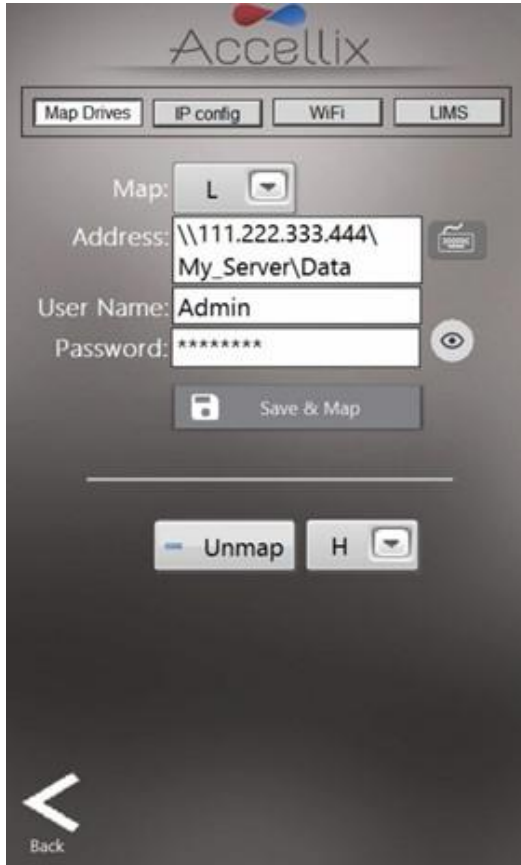

Figure 24: Network screen: Map Drives tab
The **Network function** screen (Figure 24), has 4 tabs:
1. The Map Drives tab (Figure 24) allows the user to map a drive letter to a network drive.